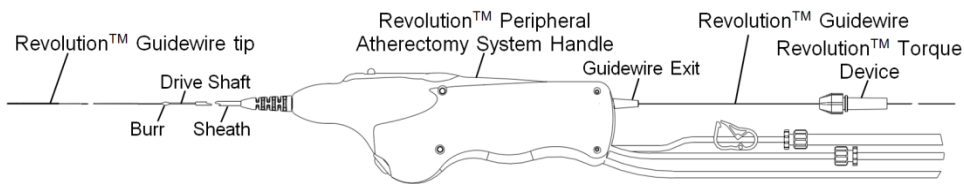

Figure 8: Tighten torque device to guidewire
7. Tighten the torque device tightly to the guidewire behind the guidewire exit as shown in Figure 8. Apply tension to the guidewire by gripping the torque device to provide wire support and allow the drive shaft to track easily over the guidewire.